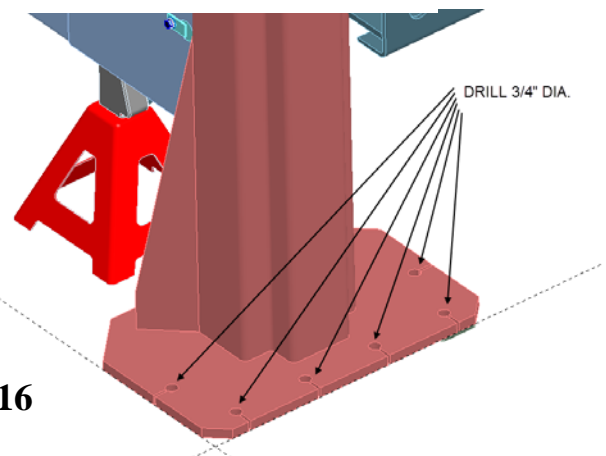

Figure 16
- Using a 3/4" concrete drill bit and rotary hammer drill, drill 3/4" holes for the anchor bolts on the high side column. Drill completely through the Concrete floor (**Fig.16**). In case longer anchors are required, supplied anchors can be hammered through concrete.